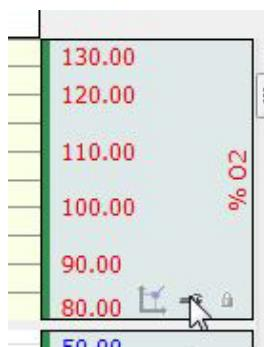
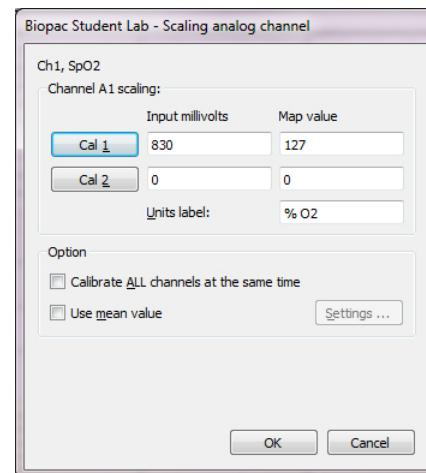

Figure 3
Figure 4
6. Using the arrow selection tool, click the wrench button in the units (% O₂) region of **CH 1** (SpO₂) as shown in Figure 3 to display the Scaling dialog shown in Figure 4.